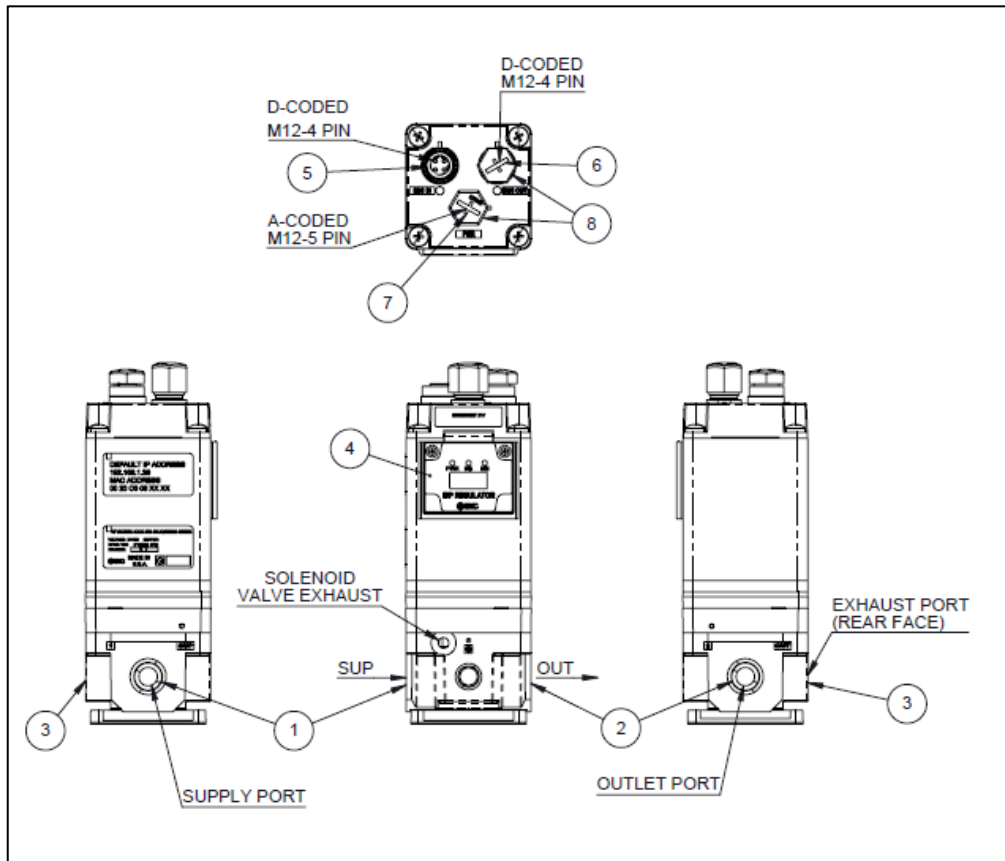

Figure 5 - ITV Drawing
- a. See Figure 5 - ITV Drawing for the description of fitting locations.